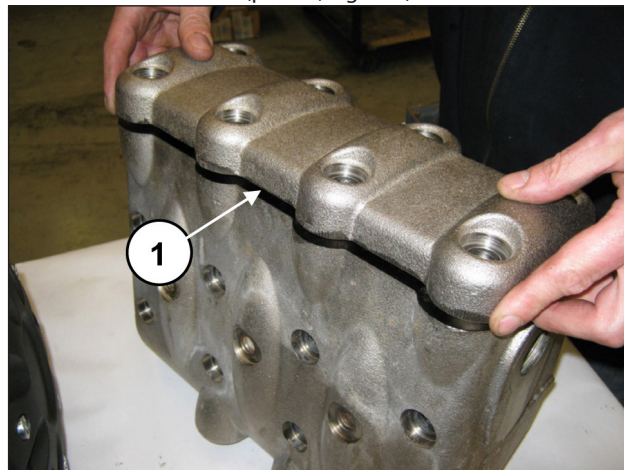
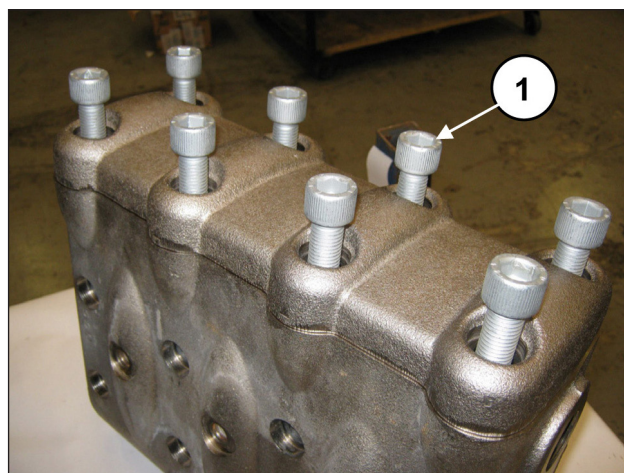

Fig. 126
Fig. 127
After having completed assembly of the valve units and the valve plug, apply the valve cover (pos. ①, Fig. 126) and screw in the 8 M16x55 screws (pos. ①, Fig. 127).